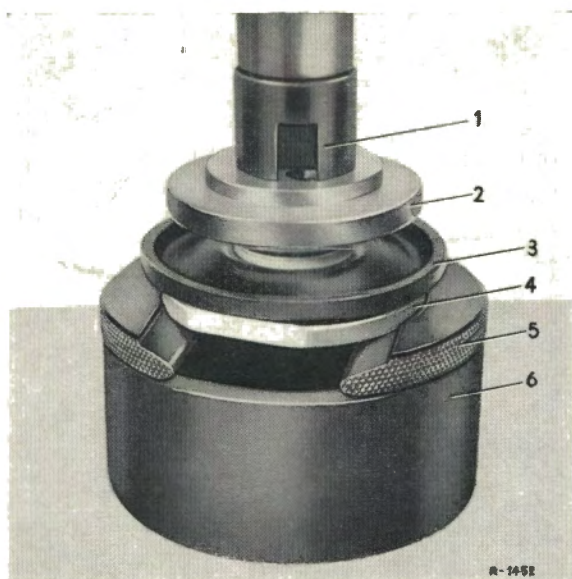

Fig. 42-13/5
7. Press the lining pressure plate (4) into the piston (2) by means of the reassembly ram (1) (Fig. 42-13/5).
8. Insert the friction spring (10) in the bore of the piston (7) (Fig. 42-13/2).
9. Coat a new piston seal (8) with ATE Brake Paste, put it on the piston (7) and attach the piston plate (11) to the piston (Fig. 42-13/2).